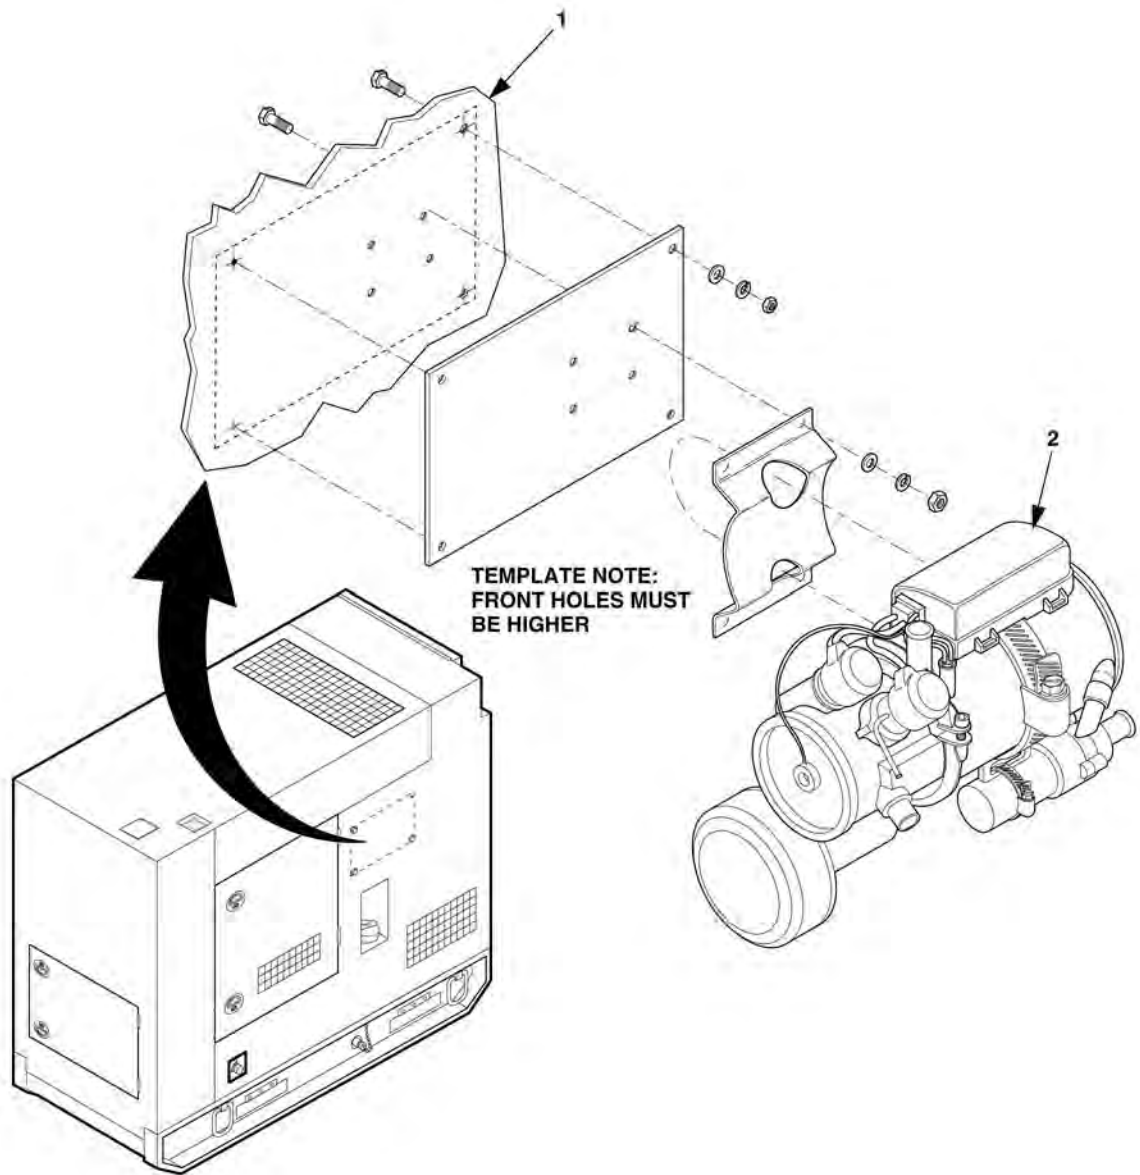

Figure 4-38. Heater Assembly Removal
11. Remove heater assembly (2), Figure 4-38 from bulkhead (1) along with all hardware (bolts and nuts).